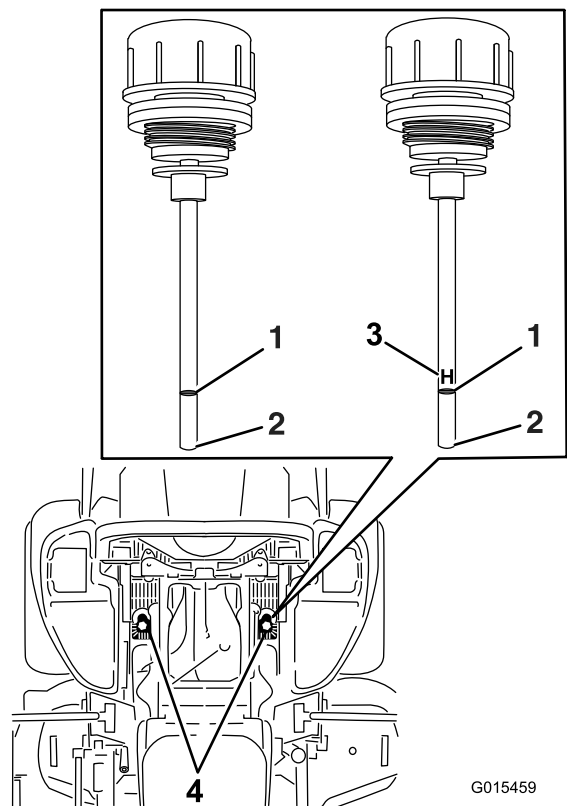

Figure 82
5. Clean the area around the dipsticks of hydraulic-system reservoirs (Figure 82).
6. Remove 1 dipstick from the hydraulic reservoir (Figure 82).
8. Remove the dipstick and look at the end (Figure 82).